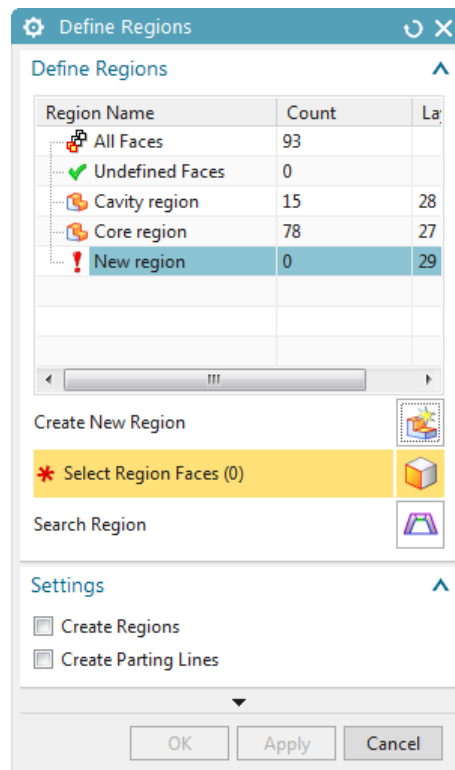

Figure 16-98 The Define Regions dialog box
1. Choose the **Define Regions** tool from the **Parting Tools** gallery of the **Mold Wizard** tab; the **Define Regions** dialog box is displayed with the **Parting Navigator** window, refer to Figure 16-98.